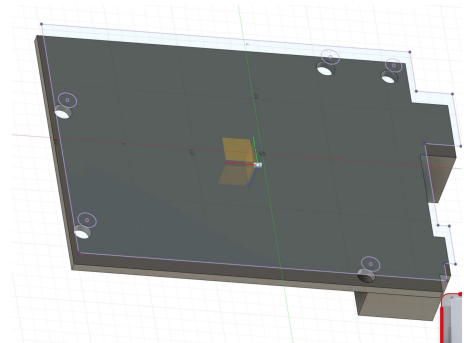

Figure 1.4
- Here, projecting the Arduino's bottom face transfers its mounting holes and outline onto the offset plane, keeping everything perfectly aligned (see Figure 1.4).